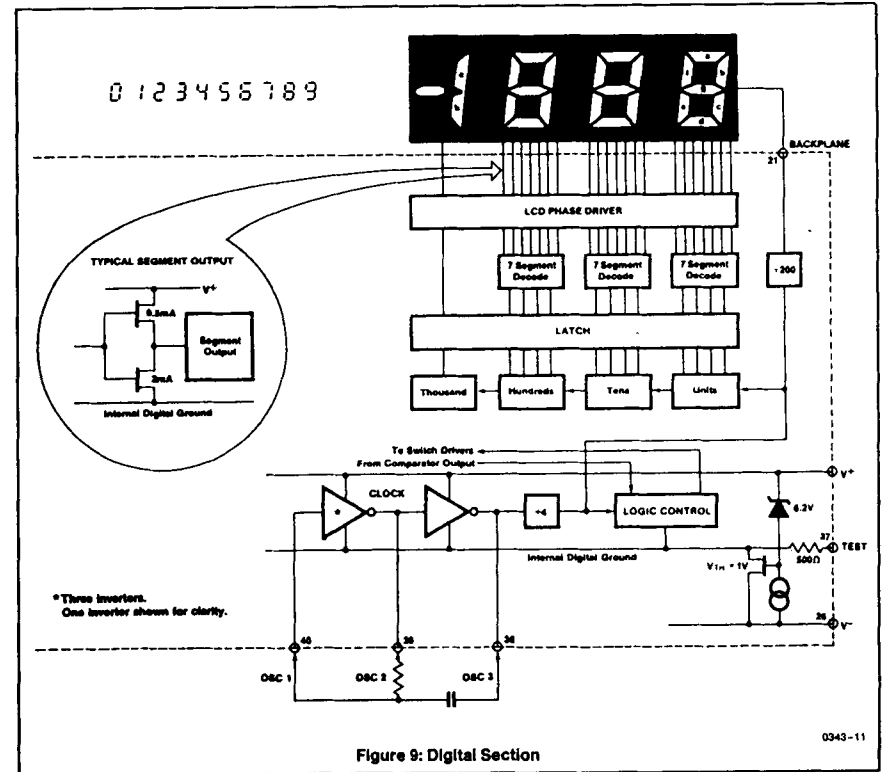

Figure 9: Digital Section
Figure 9 shows the digital section for the 7136. An internal digital ground is generated from a 6V Zener diode and a large P channel source follower. This supply is made stiff to absorb the relatively large capacitive currents when the backplane (BP) voltage is switched. The BP frequency is the clock frequency divided by 800. For three readings/second this is a 60Hz square-wave with a nominal amplitude of 5V. The segments are driven at the same frequency and